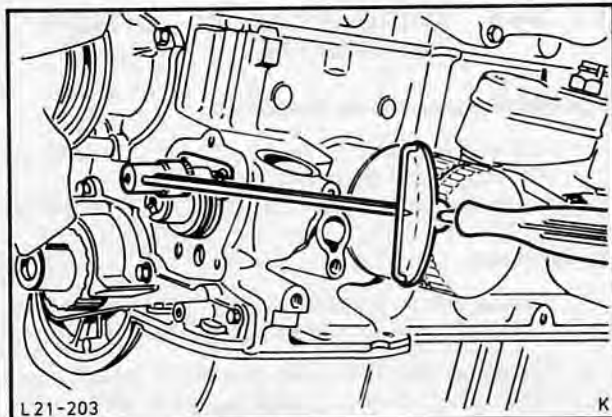

Fig. 233. Torque auxiliary shaft thrust plate bolts as specified in Technical Data
9. Install auxiliary shaft and fit thrust plate, Fig. 233. Check end-float (see Technical Data) and adjust by fitting other thrust plate or auxiliary shaft, if necessary.